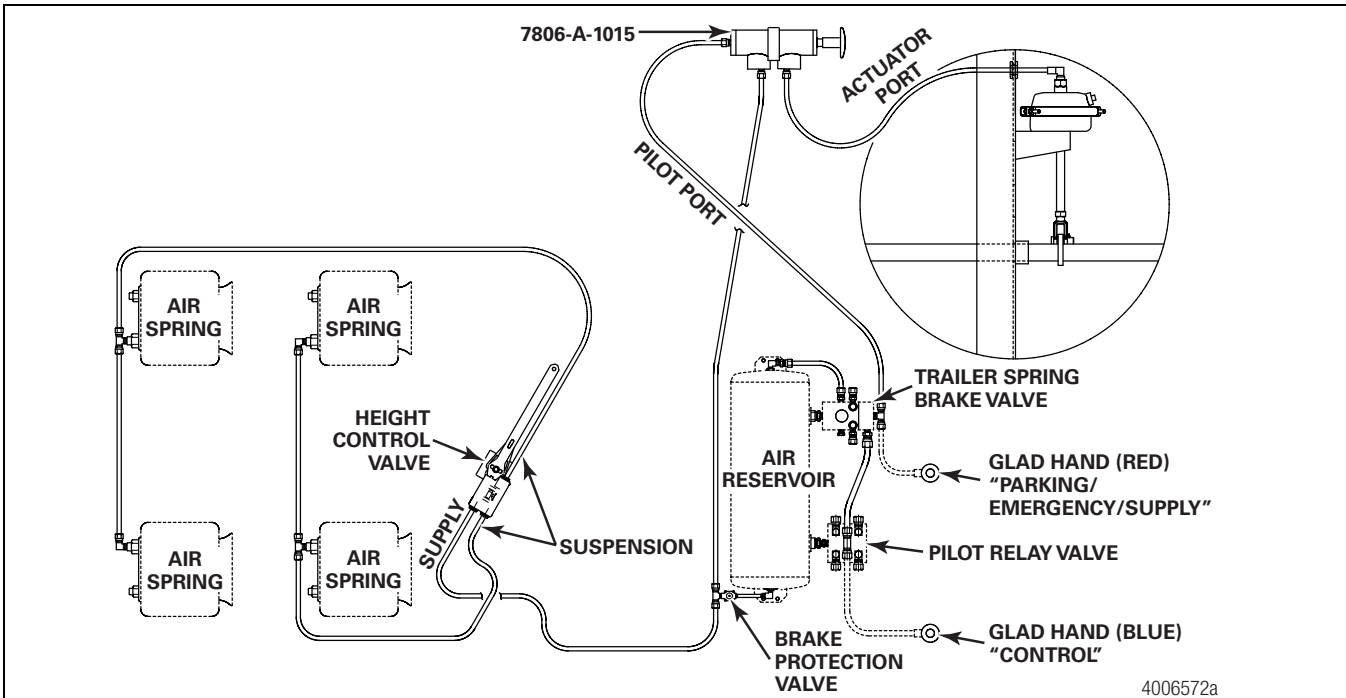

Figure 14
15. Install the air lines. Figure 14.